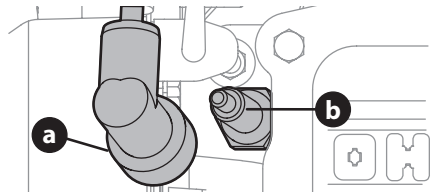

Figure 10
1. Remove the spark plug boot (a) and use a spark plug wrench to remove the spark plug (b) (Figure 10).